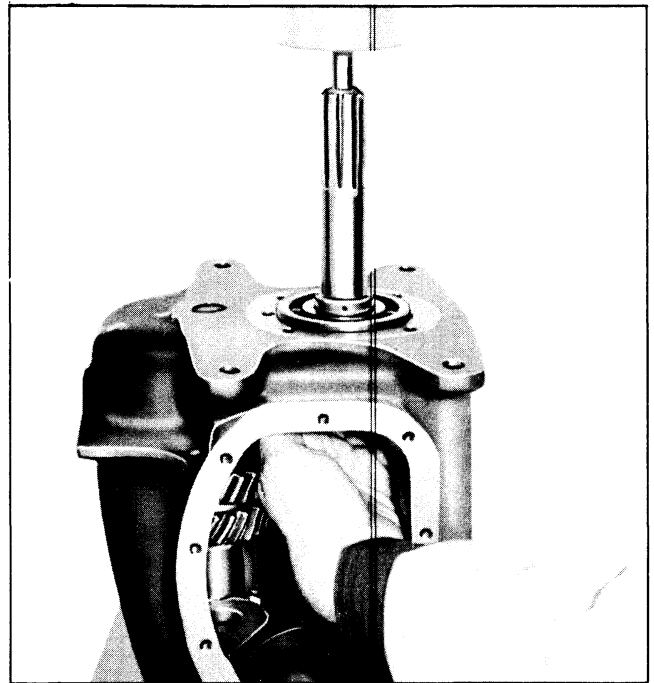

Fig. 7B-14 Removing Main Drive Gear from Front Bearing
19. Remove the mainshaft rear snap ring. Support first and second speed clutch assembly, as shown in Fig. 7B-19, and press on rear of mainshaft to remove shaft from rear bearing, first speed gear thrust washer, first speed gear and synchronizing ring, first and second speed clutch sliding sleeve, and first speed gear bushing.